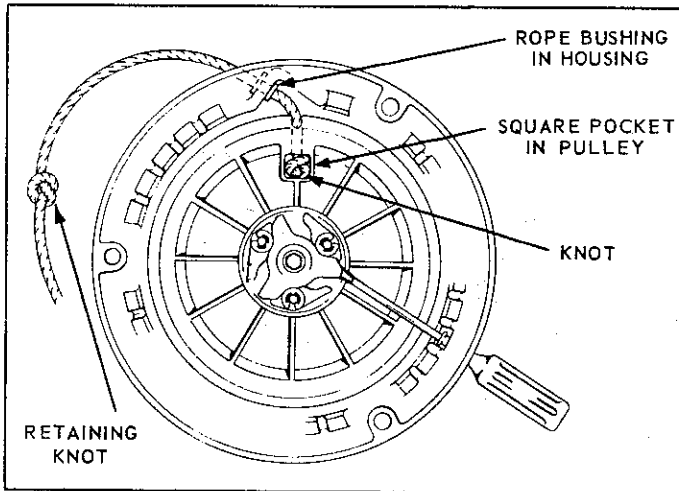

FIG. 5
Assuming the rope has broken, remove what ever remains of the rope from the starter. Tie knot at end of new rope. To obtain the required amount of *tension* on the *recoil spring*, turn the *pulley* in starter *counter clockwise* until it stops (about 6-7 turns). Allow the pulley to rotate slightly in the opposite direction (clockwise) until the hole in the pulley is in line with the rope bushing in the housing. Lock sheave in this position by placing a screw driver between two of the housing support ribs and wedging the end of the screw driver under the dog cam and against the dog, see Fig. 4. Thread rope through hole in pulley and through *rope bushing* in housing. Pull rope completely through until the knot in end of rope (previously tied) can be tucked into the *square pocket* in the pulley, see Fig. 5. Allow the rope to recoil into the pulley about 2 feet, then tie a *retaining knot* in the rope to prevent it from being completely rewound into the pulley. Install the 'T' handle (128) on the rope, then the handle insert (129). Tie a knot at end of rope and tuck it into the handle insert, then assemble insert into the rubber 'T' handle. Remove the retaining knot and allow the rope to recoil completely.